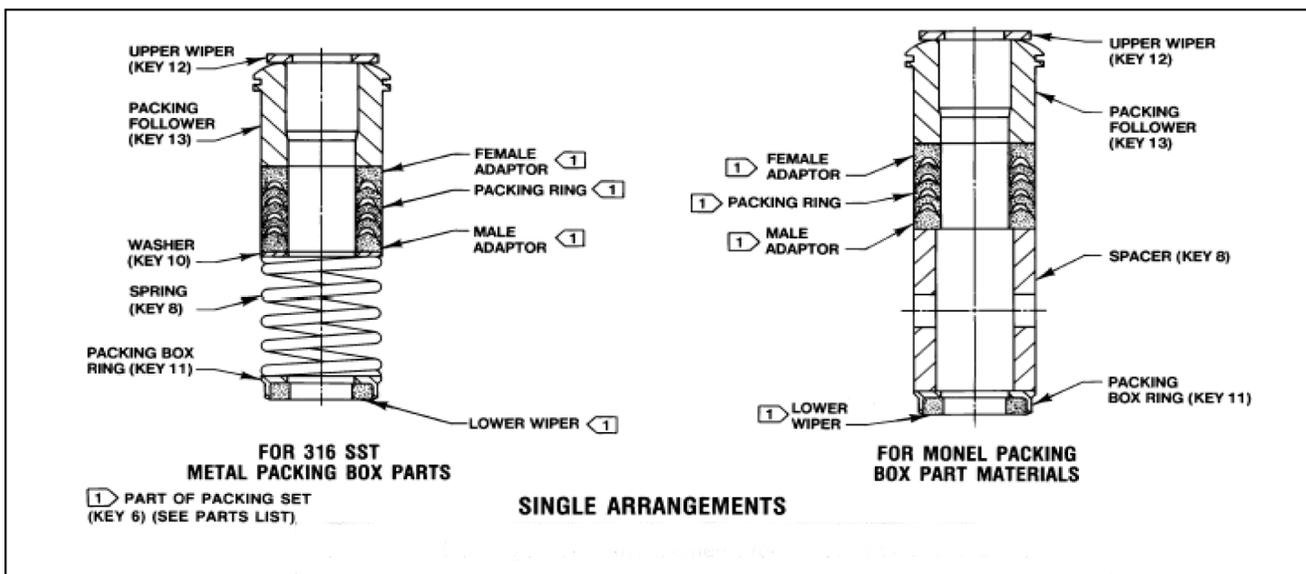

Figure 2: PTFE V-Ring Packing Arrangements for Plain and Extension Bonnets
This section covers PTFE V-ring packing as used in plain and extension bonnets. Unless otherwise indicated, key numbers refer to figure 2 for PTFE V-ring packing.
For spring-loaded single PTFE V-ring packing, the spring (key 8, figure 2) maintains a sealing force on the packing. If leakage is noted around the packing follower (key 13, figure 2), check to be sure the shoulder on the packing follower is touching the bonnet. If the shoulder is not touching the bonnet, tighten the packing flange nuts (key 5, figure 10), until the shoulder is against the bonnet. If leakage cannot be stopped in this manner, proceed to the replacing packing procedure.
The following section covers packing replacement as used in plain and extension bonnets. Refer to figure 2 for PTFE V-ring packing.
12. Install new packing and the metal packing box parts according to the appropriate arrangement in figure 2. Place a smooth-edged pipe over the valve stem and gently tap each soft packing part into the packing box, being sure that air is not trapped between adjacent soft parts.